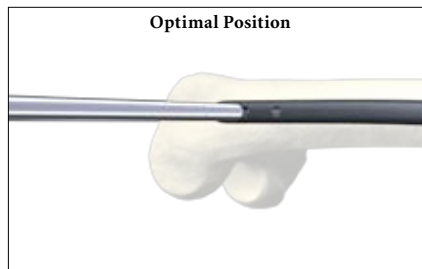

Fig.32b
Once the C-Arm has been adjusted, so that nail and sleeve are shown parallel (Fig.32a, b, c), the deviated image will show either the sleeve above or below the nail (Fig.32a, c). If the sleeve and the nail are shown parallel and in the same axis (Fig.32b), no deflection of the nail shaft has occurred, and no further adjustment of the Adjusting Device is needed.
Once the correct nail and sleeve adjustment has been obtained (Fig.32b), a small skin incision is made at the tip of the Trocar and then continued down to the lateral cortex in the direction of the Sleeve. Press the Sleeve Fixation Button (Fig.34 ①) so that the Tissue Protection Sleeve can advance freely. The head of the Trocar will rise a few millimeters above the sleeve, when the assembly has been pushed to its proper position against the lateral cortex. Always verify that the Tissue Protection Sleeve is in good contact with the bone (Fig.34a).